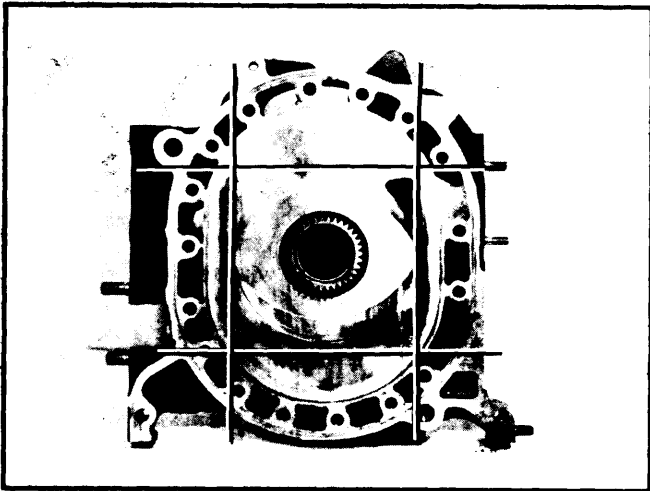

Fig. 7 Straightedge Positions for Checking Housing Distortion
- 3) Place a straightedge across housing surface in positions shown in illustration. Using a feeler gauge, measure distortion of front housing. Replace or reface housing if distortion limit of .0016" (.04 mm) is exceeded, (Fig. 7).